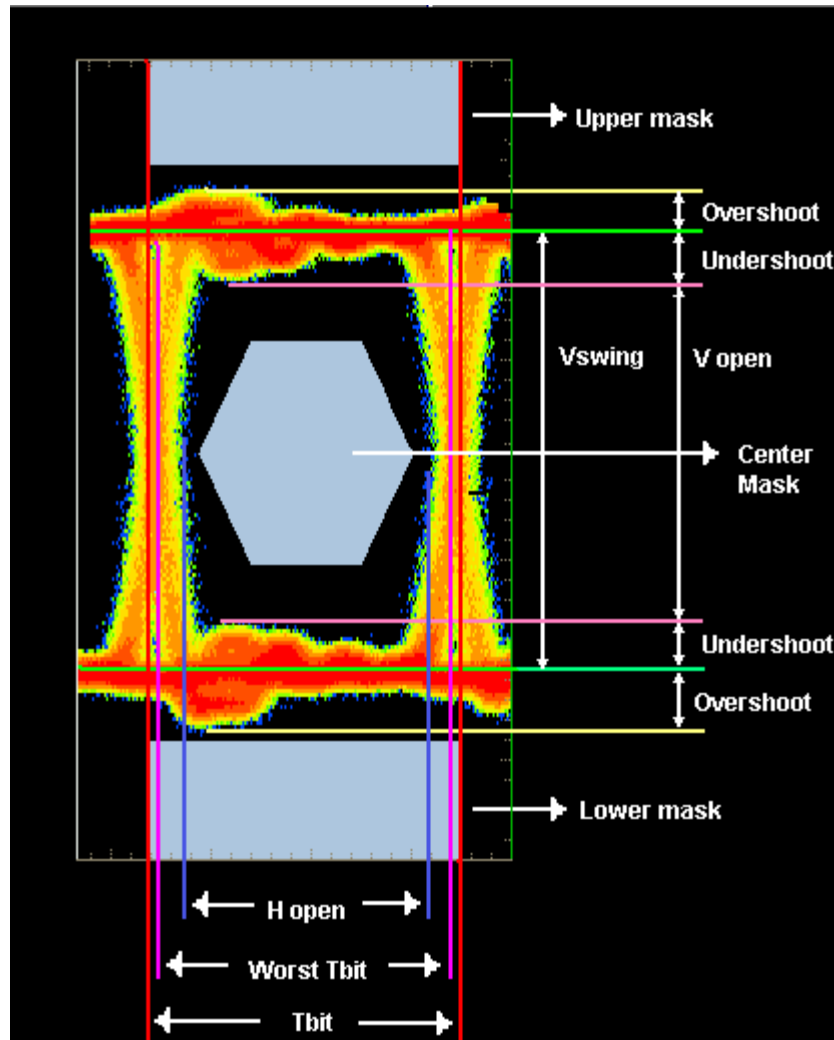

Figure 33: Eye definitions
2. Select the Go to Trend button to display the Vertical and Horizontal trends as shown in figure 33.
Select the Zoom button to view the zoomed eye mask. Figure 33 shows the eye diagram parameters.